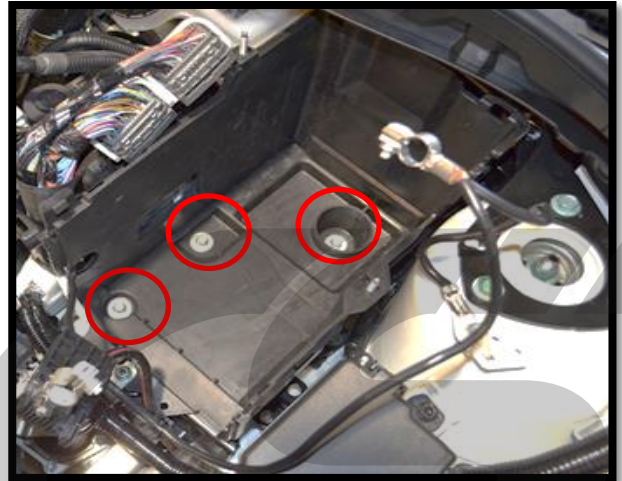

Figure 2e
- g) Remove the battery box. Remove the three 10mm bolts in the bottom of the box, and remove the battery box and ECU (red circles Figure 2e).